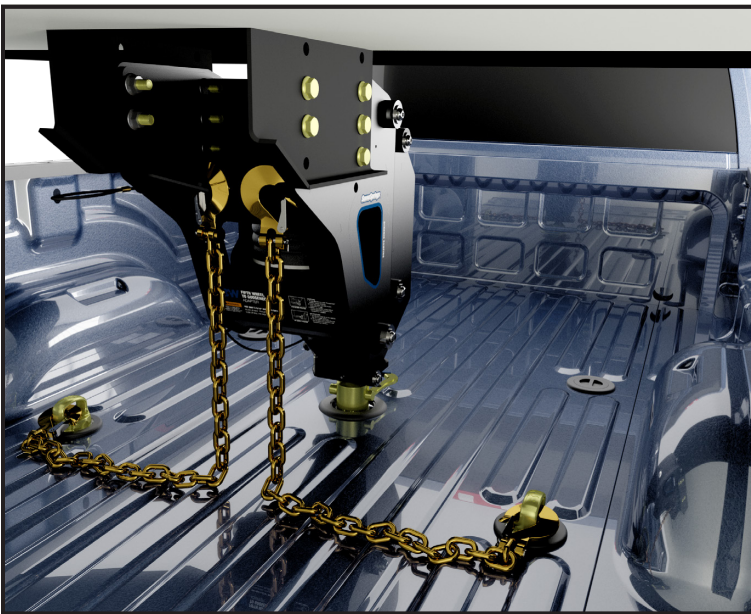

FIGURE C2: Safety Chain Attachments (RAM HD truck shown)
6. **Attach safety chains.** Attach the supplied safety chains to the adapter and the safety chain anchors on the vehicle, see **Figure C2**.